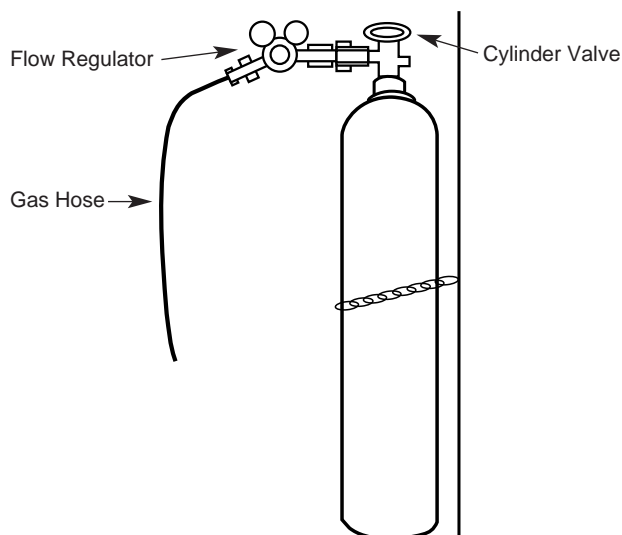

FIGURE A.5
1. Chain the cylinder to a wall or other stationary support to prevent the cylinder from falling over, if not using undercarriage. Insulate the cylinder from the work circuit and earth ground. Refer to Figure A.5.